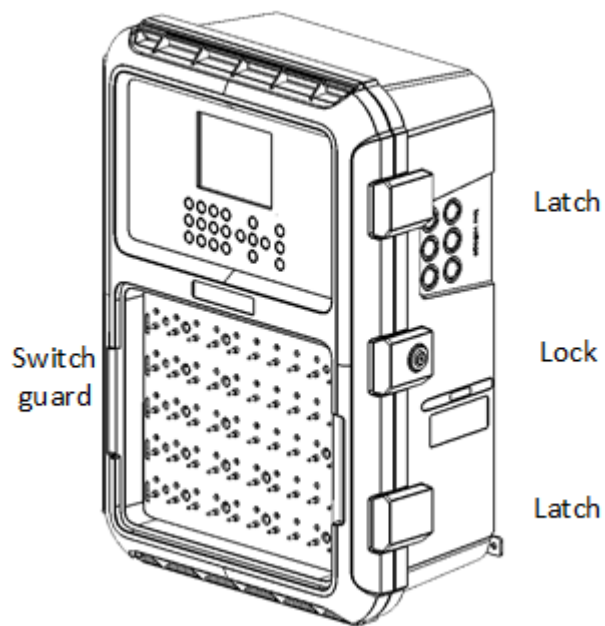

Figure 4: Rotem One External Parts
- Normally Open (only) sets include ten relays: Two (2) 5 x Normally Open relay cards along with a 10 relay switch card.
- One 5 x Normally Closed relay card. This card must be installed on the left side of the unit. See Figure 4.